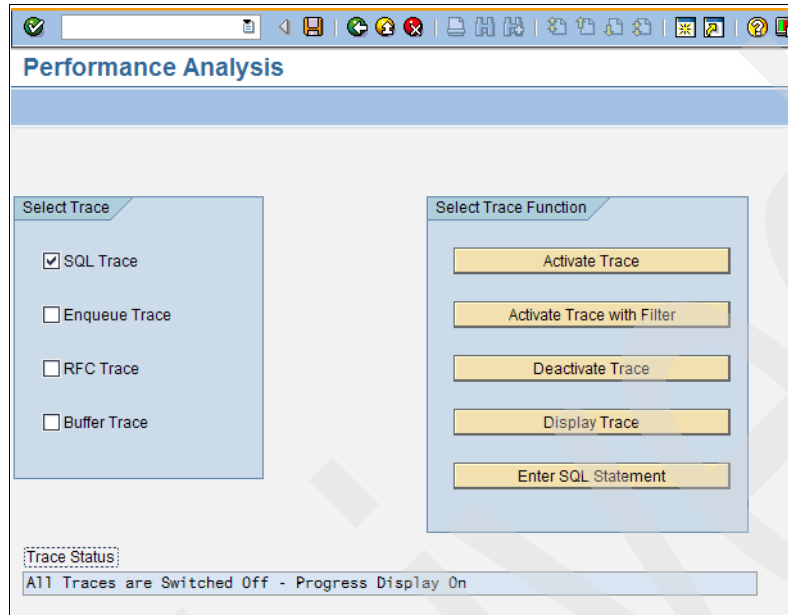

Figure 26-17 Session 2: Transaction ST05
1. Select **Session two** to perform Transaction ST05 as shown in Figure 26-17.